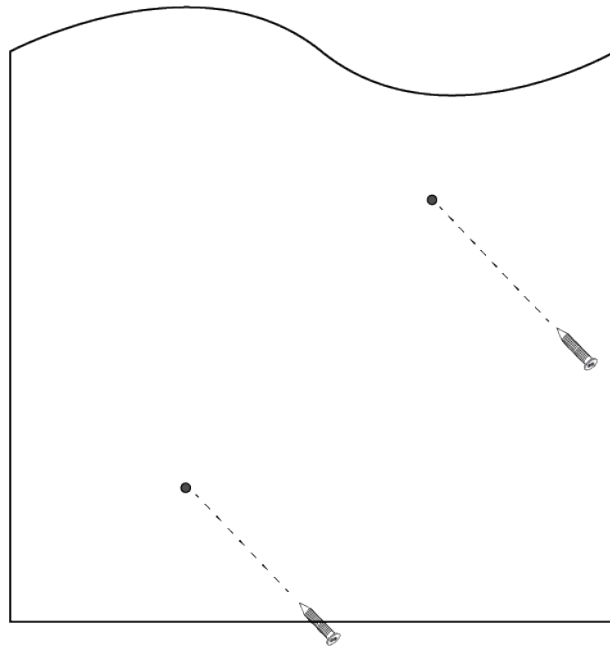

Figure 14. Installing Two Screws
5. Install two M4 screws and anchors (if required). Leave the screws loose enough so that the bracket can slide under the screw heads. Refer to Figure 14.